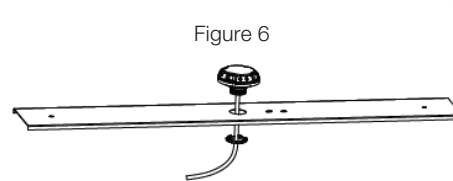

Figure 6
STEP 2: Remove the knockout on the cover, and install the sensor (Figure 6). Connect the wiring according to the wiring instructions.